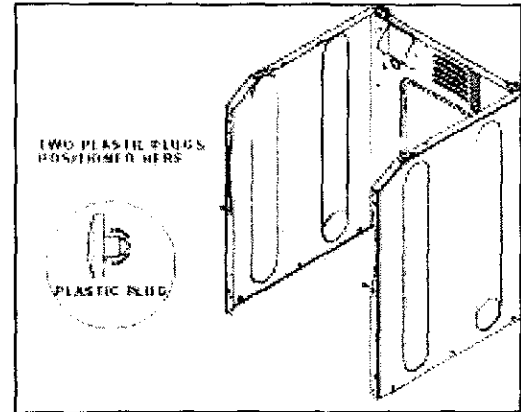

Figure 2
3. Locate the package containing the two plastic plugs in the kit. Press the plugs into the flange of the cabinet. *(Figure 2)*